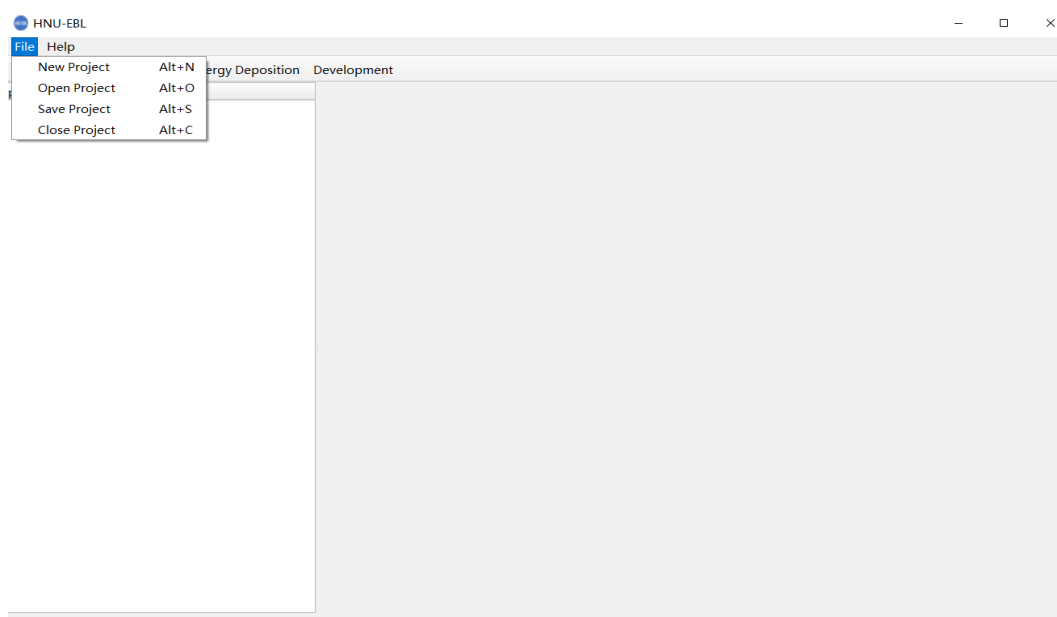
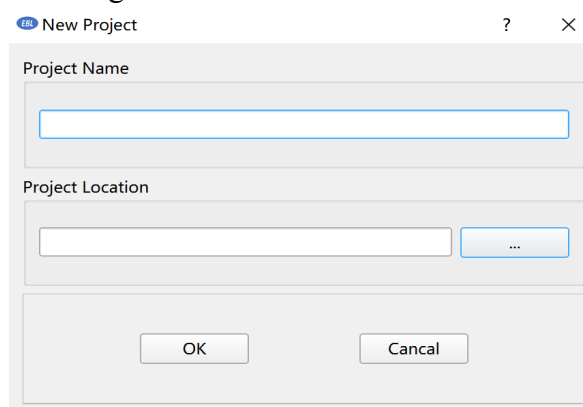

Figure 2.1.1 Software main interface
Figure 2.1.2 New project interface
(1) You can open the software and click the “File” and “New Project” to create a new project (Figure 2.1.1). You need to fill in the project name and a path to save the project (Figure 2.1.2). You can also click "Open Project" to open an existing project. (Note: The path can only contain English letters and symbols, not Chinese.)